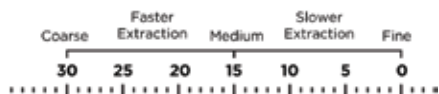

Fig. 3:
2. The Bean Box has markings indicating coffee coarseness (see Fig. 3). To adjust the grind setting, ensure that your desired setting on the Bean Box is aligned with the mark on the top cover (as shown in Fig. 4).